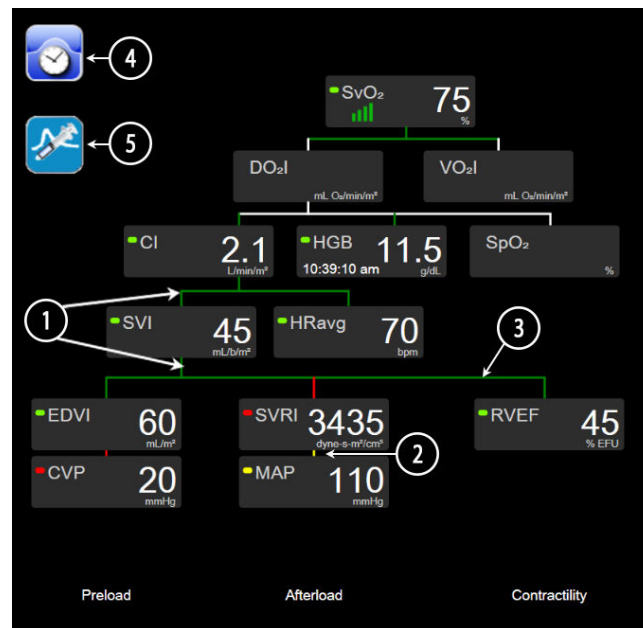

Figure 5-14: Physio relationship screen while monitoring with HemoSphere Swan-Ganz module
2. Vertical lines that directly connect two parameters will appear in the same color as the parameter lantern below (for example, between SVRI and MAP in Figure 5-14 on page 112).
4. The left bar appears after a bolus set is performed. Touch the clock/waveform icon to display historical data when available (see Figure 5-14 on page 112).
The example shown in Figure 5-14 on page 112 is while monitoring with a HemoSphere Swan-Ganz module. Differences in appearance and parameters will occur with other monitoring modes. For example, while monitoring within minimally-invasive monitoring mode, HRavg is replaced by PR, PPV and SVV appear (if configured), and EDV and RVEF are not shown.